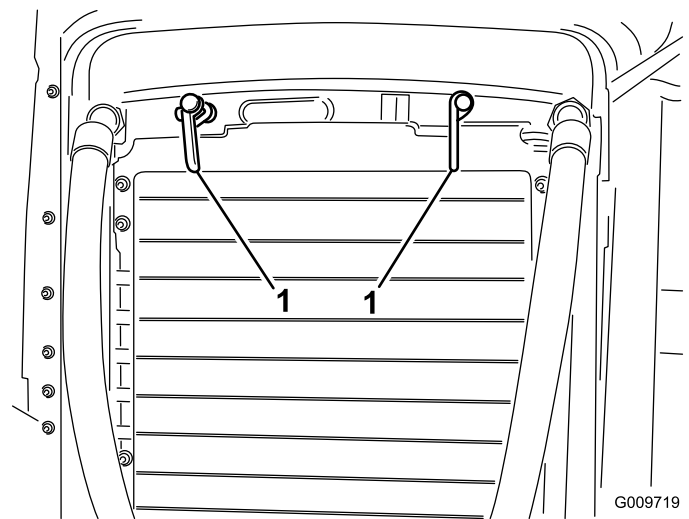

Figure 75
2. Rotate the latches (Figure 75) securing the oil cooler to the frame.